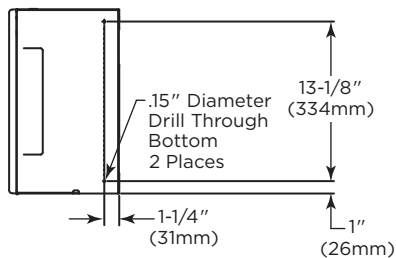

Figure 1
2. Use 3974-43 Drilling Template included in the kit to drill two (2) .15" diameter holes in the bottom of the Roll Towel Module per the dimensions Figure 1 below.